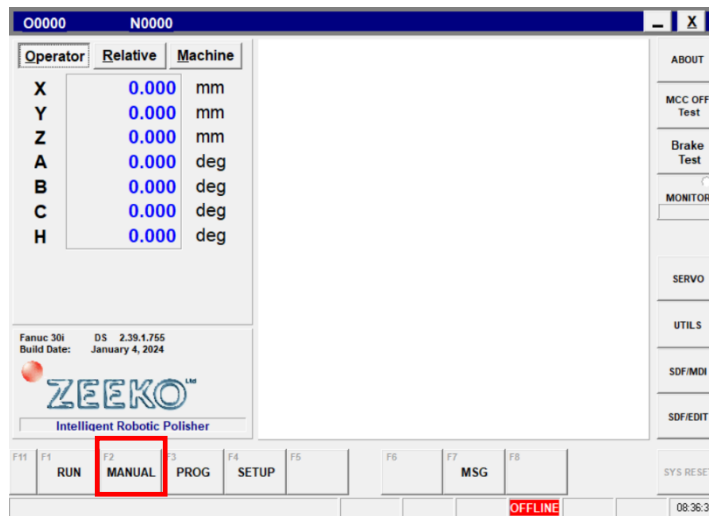
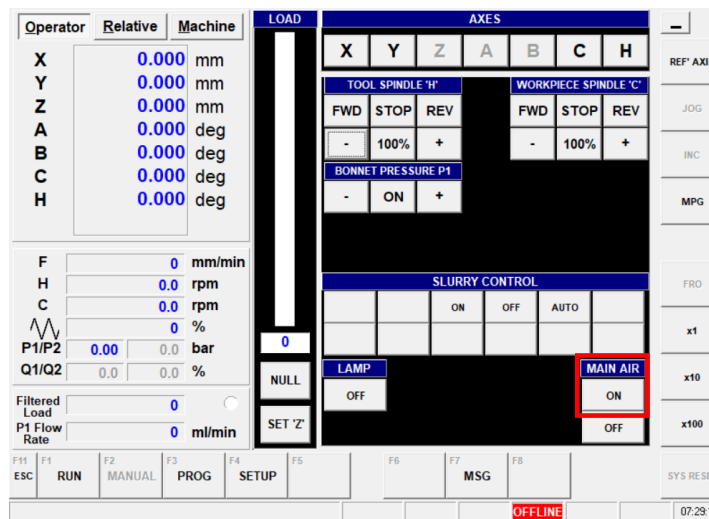

Figure 23 - Manual button on main screen
Figure 24 - Compressed Air ON
2. Switching on the compressed air (Main Air) supply to the machine, is activated from the “Manual” menu in the “Zeeko GUI”. This is done by pressing the “Manual” button from the main screen and then pressing the “ON” button for the main air. See (Figure 23 - Manual button on main screen) and see (Figure 24 - Compressed Air ON).